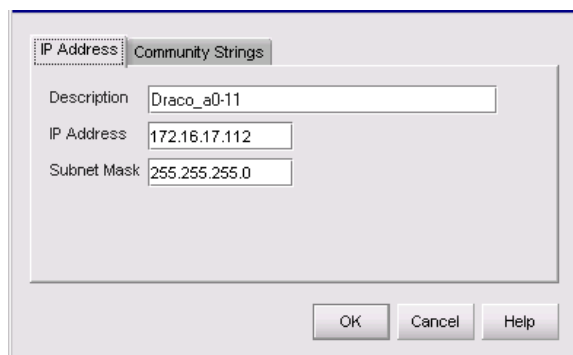

Figure 54: Domain Information dialog box
- d. Select (highlight) the entry representing the reset switch in the Available Addresses window and click **Change**. The Domain Information dialog box displays (Figure 54).